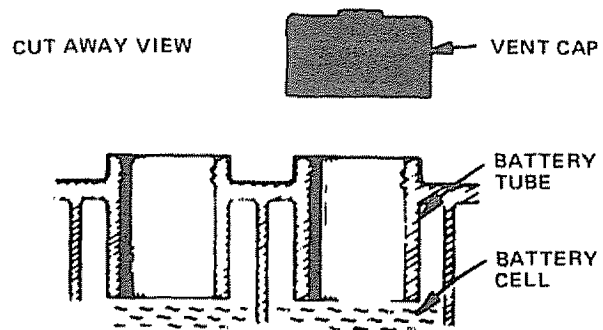

FIGURE 4
- a. Fill Battery with electrolyte to bottoms of tubes in cells (Fig. 4). NOTE: DO NOT OVERFILL. OVERFILLING WILL RESULT IN DAMAGE TO TRACTOR.